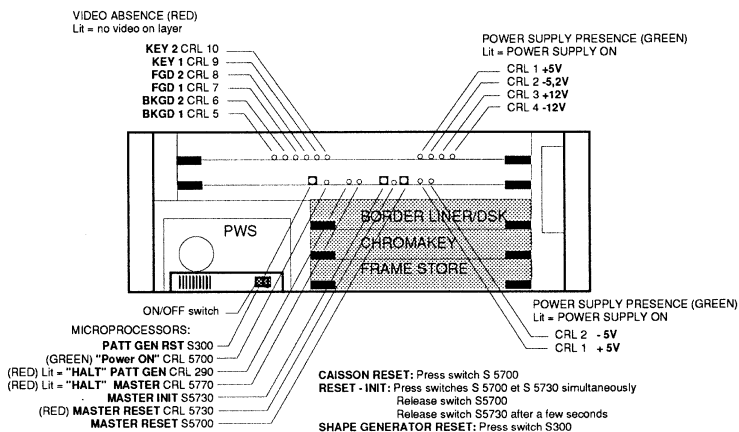

Fig. 13: Indicators and switches on the front panel
With the mixer installed and connected (connected with control panel, inputs/outputs, reference video, remote control), connect the mains and set the control panel mains switches (inside, see fig.) and the chassis (on front panel, see fig. 13) to «ON».
On switching on or on a reset (see fig. 13), the mixer resumes the last configuration used (i.e. before switching off).
b) **Master microprocessor Reset:** if there is a connection or mixer blocking problem. Press switch S5700 on the «Processing» card front panel (see fig. 13). This reset the master microprocessor **without altering the memory status**, i.e. the mixer configuration.